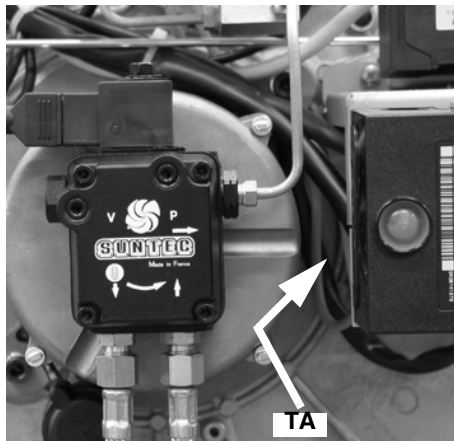

Fig. 39
- Disconnect the ignition cables **CA1** and **CA2** from the transformer **TA** (Fig. 39).